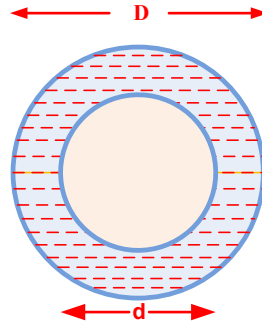

Figure 2
2) **If the fluid is flowing through the annulus as shown in Figure 2, then**